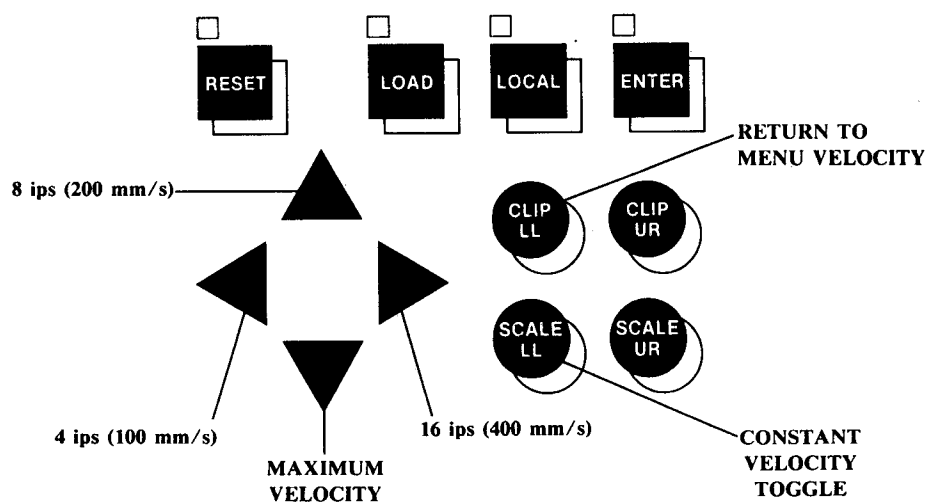

FIGURE 2-5. TEMPORARY CONTROL PANEL ENTRIES
The temporary control entries are shown in Figure 2-5.
3. Press the ◀ key for 4 ips (see Figure 2-5). After the key is pressed, the plotter automatically returns to remote mode and continues processing. (The plotter may have internally pre-processed one or two vector moves at the original velocity before the ENTER was pressed in step 2. If so, the plotter will plot those vectors at the original velocity before the 4 ips selection goes into effect.)
4. After the plotter draws the design at 4 ips, press the ENTER key again. Plotting can be resumed at menu velocity (12 ips) by pressing the CLIP LL key (see Figure 2-5).